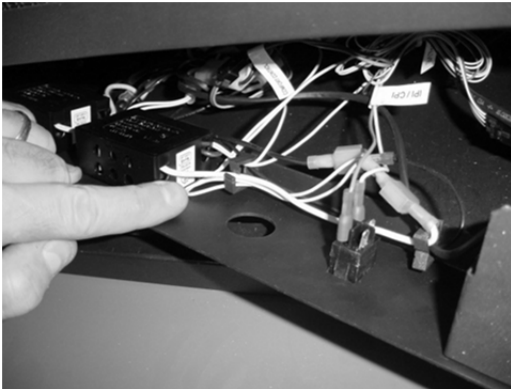
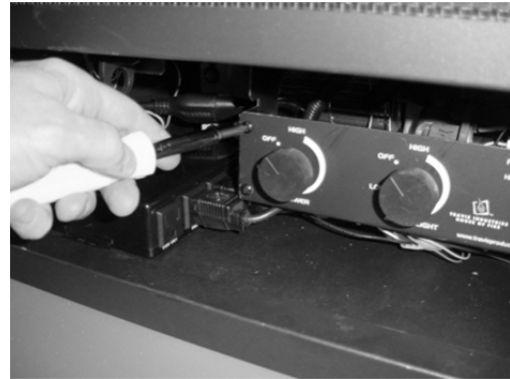

Figure 35
Figure 36
- 21 Clip any excess wiring into the wire clips on the back of the control panel (see Figure 35). Use the included wire ties, if necessary, to keep all wiring from contacting any hot or moving components. Re-attach the control panel (see Figure 36) and shroud (see Figure 3).